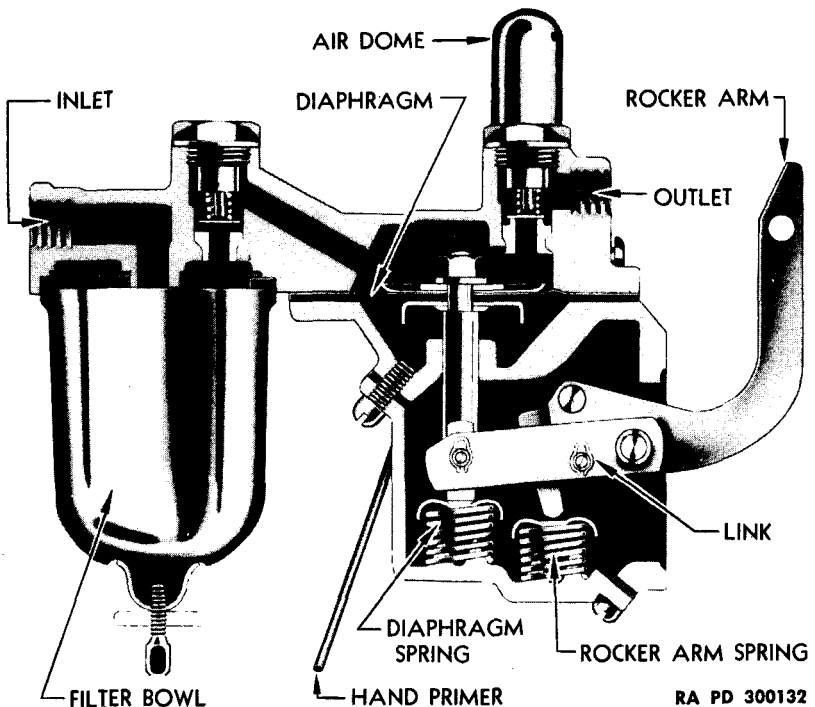

Figure 38—Fuel Pump
a. **Description.** The fuel pump (fig. 38) is the diaphragm type, mechanically operated from the camshaft. The pump is equipped with